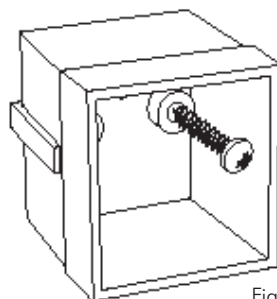

Fig. 2
- Fix the box to the staple with one screw. Finally, unscrew the rod and fix the second screw (see figure 2).